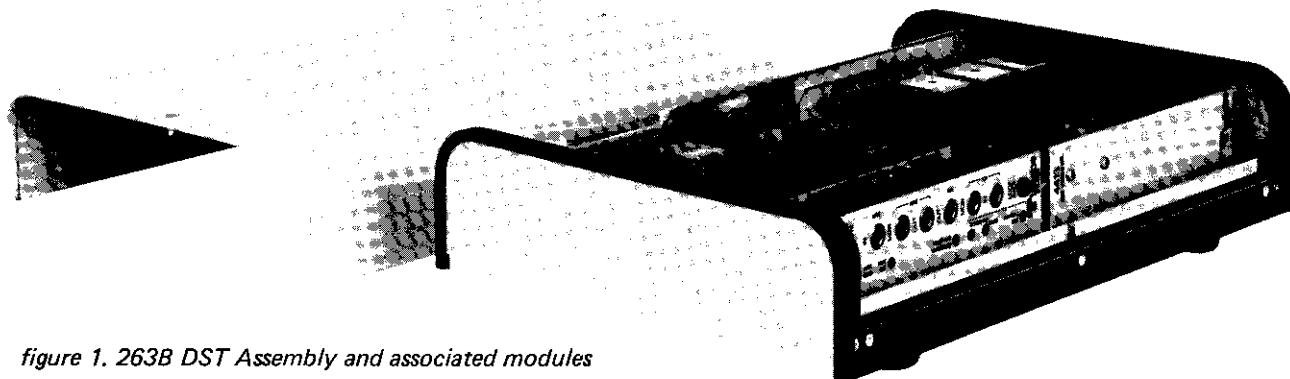

figure 1. 263B DST Assembly and associated modules
1.01 The Tellabs 263B Data Station Termination (DST) Assembly (figure 1) is designed for use in data/voice-alternate applications of Tellabs' DST modules. The 263B Assembly mounts, supplies power to, and provides external connections for one DST module (4412A, 4412AS, 4412B, 4412C, 4412D, or 4212A) and one DST/Voice Alternate (VA) module (4413). The DST modules provide an interface between a data modem and a 4wire facility while the DST/VA module provides an interface between a 2wire telephone set and the DST module. Table 1 lists the DST and DST/VA modules and indicates their principal differences.